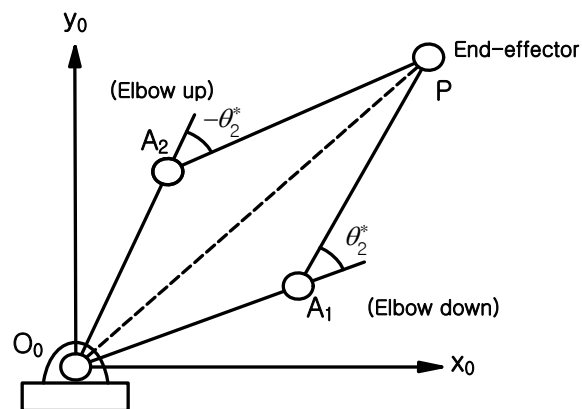

Fig. 2: Two possible inverse kinematics solutions.
- The solution of Eq. (7) can be classified into three cases. (1) two distinct real roots $|\kappa| < 1$, (2) one double root $|\kappa| = 1$, (3) no real roots $|\kappa| > 1$. As shown in Fig. 2, there are two solutions, θ_2^* and $-\theta_2^*$ ($\pi \geq \theta_2^* \geq 0$). When $\theta_2 = \theta_2^*$, the solution is called elbow-down configuration. When $\theta_2 = -\theta_2^*$, it is called elbow-up configuration. When $|\kappa| = 1$, the arm is stretched-out or stretched -in. When $|\kappa| > 1$, it is out of workspace.
- Once θ_2 is obtained, θ_1 can be determined by expanding Eq. (4) and Eq. (5) as follow.